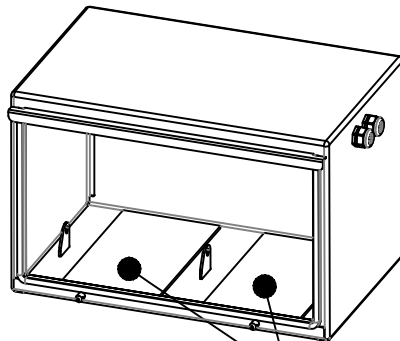

Figure 18: Battery placement pad locations. — Battery Placement Pads
1. **Place** the two battery placement pads in the auxiliary battery box (Figure 18).